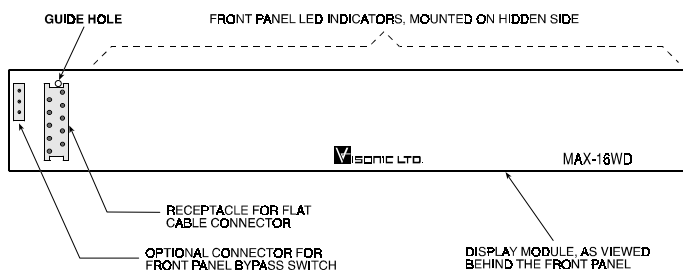

Figure 4. The MAX-16W Display Module
- Carefully pull off the 10-pin flat cable connector from receptacle near left edge of display module. Refer to Figure 4.